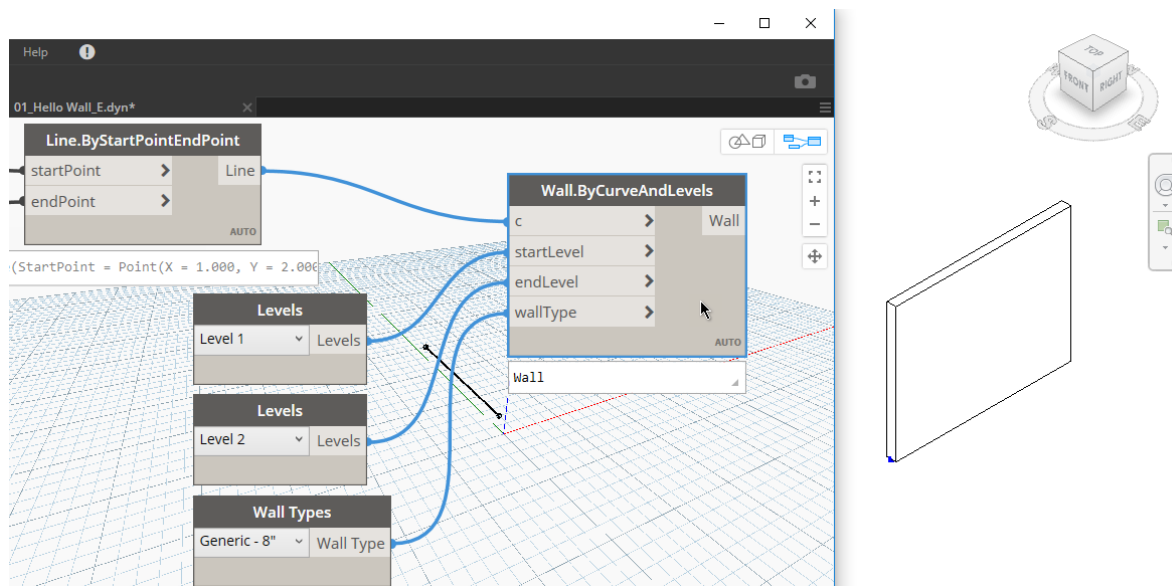

FIGURE 22
This node has four inputs: **c** stands for “curve.” We also need two levels to set the height and a wall type. As noted previously, a useful habit to get into is to pause your mouse over the various inputs for a tooltip indicating more information on what that input expects (see Figure 22).
21. Choose: **Level 2** from the next one and wire it to: endLevel and then choose any wall type and wire it to the wallType port (see Figure 22).